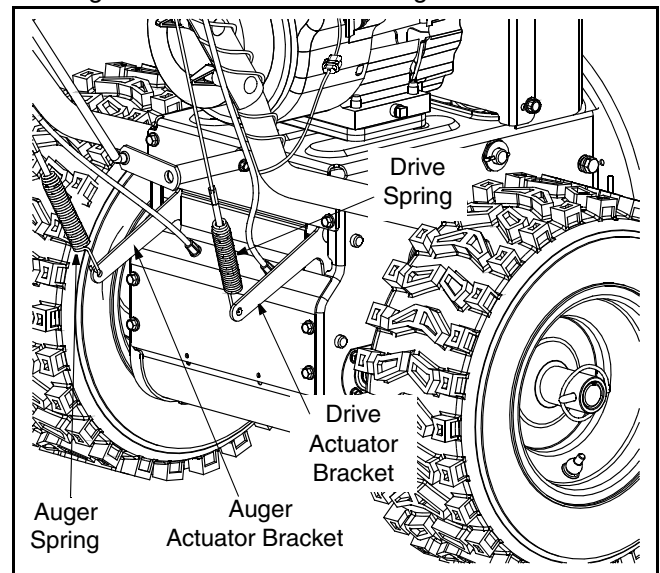

Figure 9
- To readjust the control cable, unhook the spring (found on the end of the auger cable) from the auger actuator bracket. See Figure 9.
cable) from the drive actuator bracket. See Figure 9.